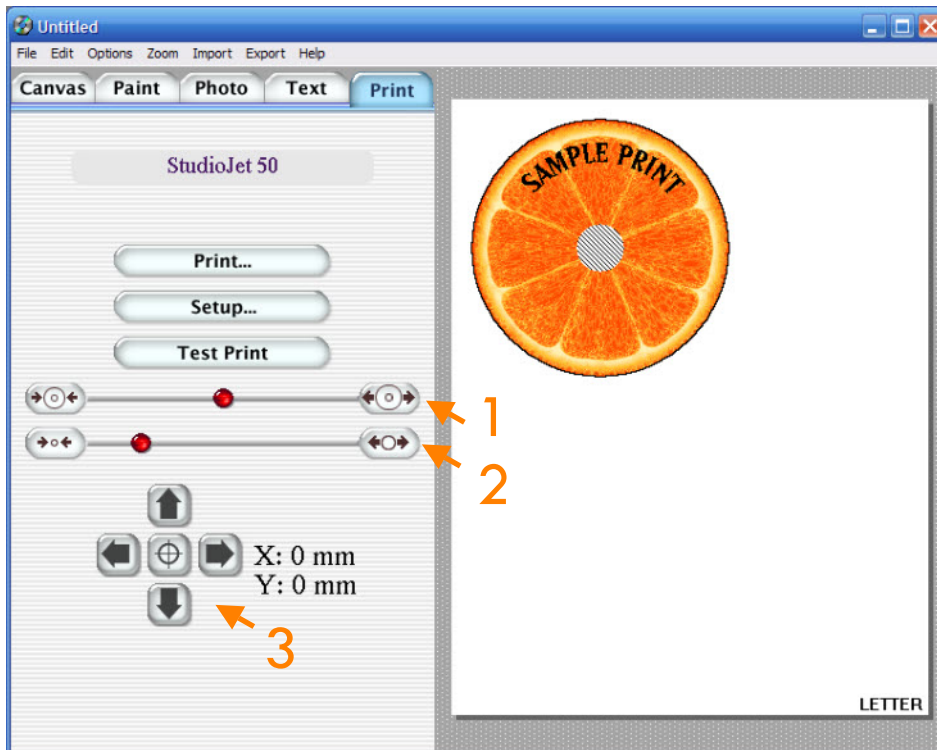

Figure 3.2 Adjusting The Size & Offset of the print image
**Using the Discus Print Setting Tab** (Figure 3.2).